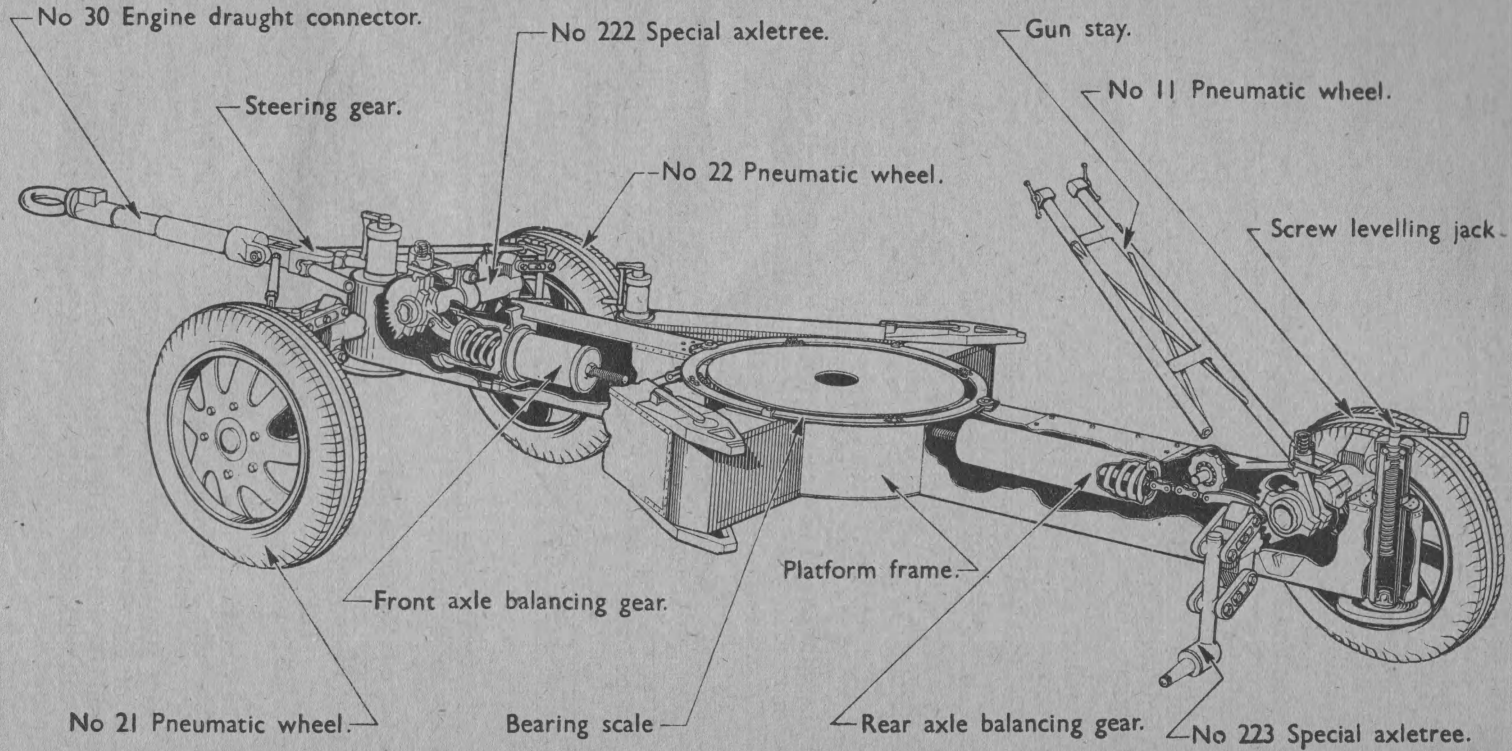

FIG. 14.
**13. The Mark 1 platform** (Fig. 14) is built of steel plates and angles. It consists principally of a longitudinal girder, inner and outer side girders, top centre plate, bottom centre plate and curved stiffening plates. The longitudinal girder has near the centre, right and left inner girders secured at right angles to it by angles and rivets, the arms thus formed being strengthened by four curved plates and a top and a bottom centre plate secured to the girders by rivets and riveted angles. The inner girders are extended by outer girders which are hinged to them; when travelling, the outer girders are folded towards the front.